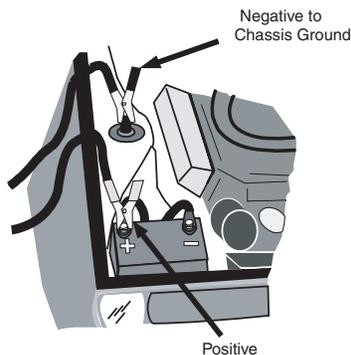
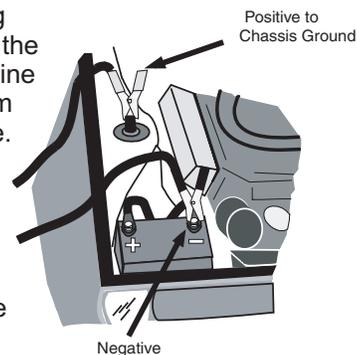

Figure 1
Figure 2
4. Determine which post of battery is grounded (connected) to the chassis. If the negative post is grounded to the chassis (as in most vehicles), see Figure 1 and instruction 5a. If the positive post is grounded to the chassis, see Figure 2 and instruction 5b.